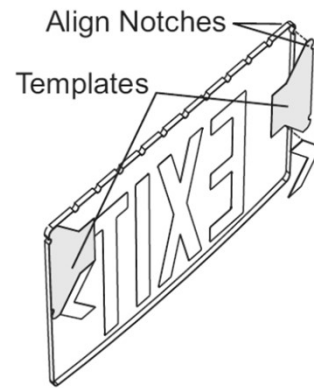
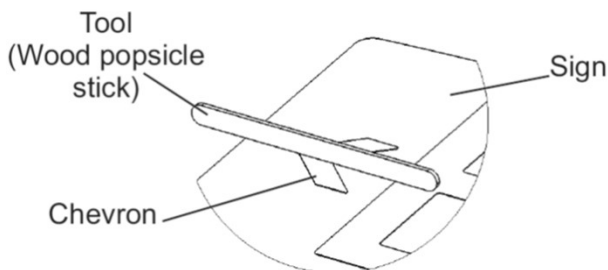
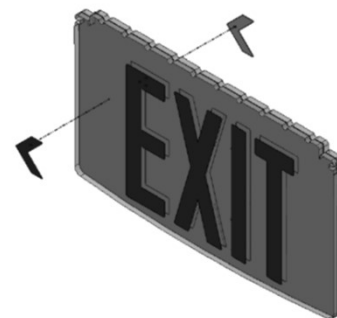

Figure 1
Figure 4
Figure 3
2. Prior to installation of the chevrons, make sure the sign is clean with no dust particles in the application area. To install the chevron(s) on a single face sign, temporarily adhere the alignment template's tacky surface to the back (printed) side of the Legend panel – *Figure 1*.
4. The white backing of the legend should correspond with the white backing of the chevron. Lay the tool provided on its side and perpendicular to the chevron – *Figure 4*.
7. For signs which consist of two panels (**doubleface**) use the alignment template (*Figure 1*) to determine the location of the chevron(s) - *Figure 3*. Use the tool provided to remove any air bubbles - *Figure 4*.